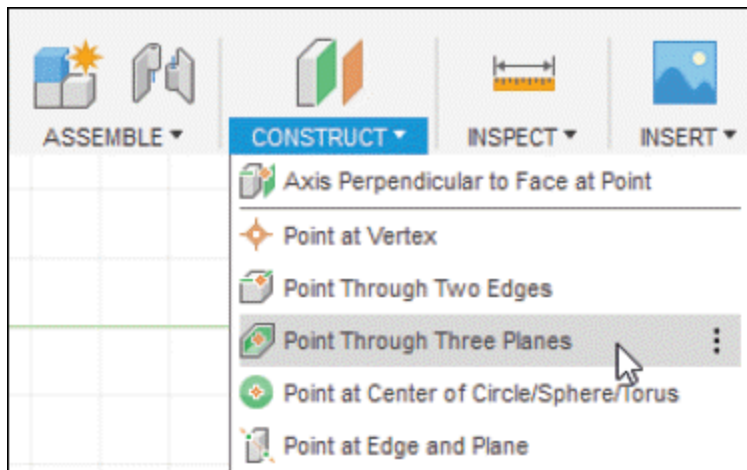
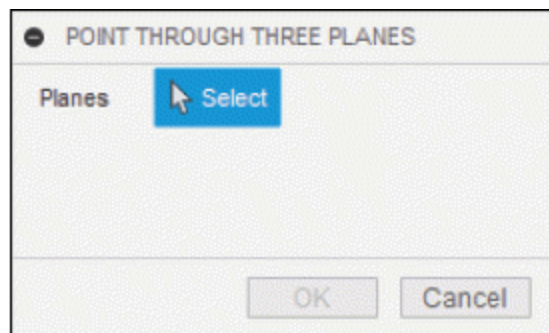

Figure-129. Point Through Three Planes tool
Figure-130. POINT THROUGH THREE PLANES dialog box
- Click on the **Point Through Three Planes** tool of **CONSTRUCT** drop-down from **Toolbar**; refer to Figure-129. The tool will be activated and **POINT THROUGH THREE PLANES** dialog box will be displayed; refer to Figure-130.